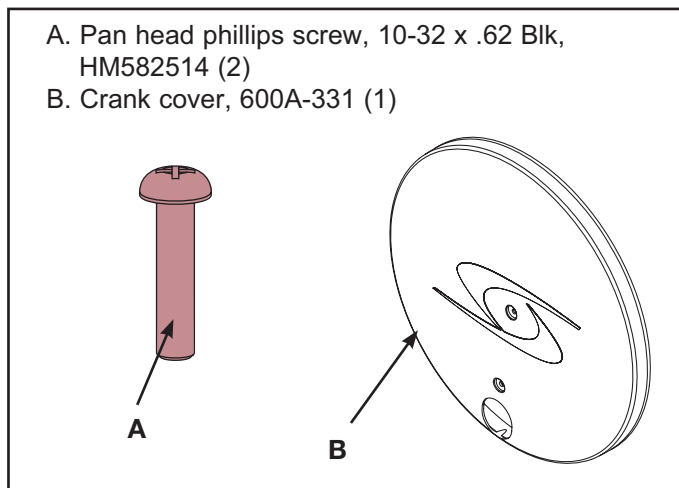

Figure 1
2. Verify kit contents. See Figure 1